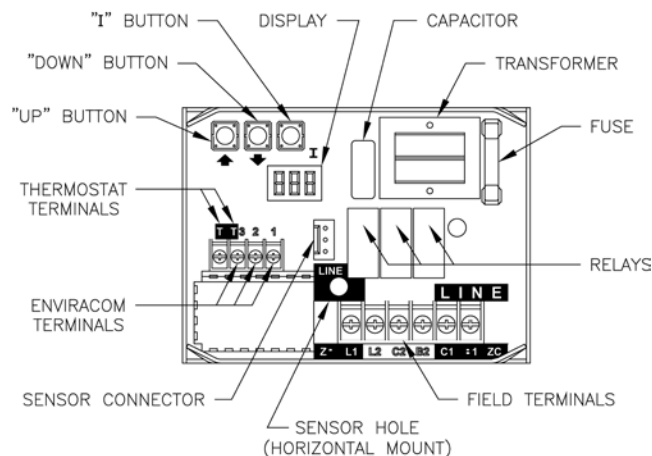

Figure 18: L7248 Circuit Board Layout - Horizontal Mount
To discourage unauthorized changing of Aquastat settings, a procedure to enter the adjustment mode is required. To enter the adjustment mode, press the **UP**, **DOWN**, and **I** buttons (see Figure 18) simultaneously for three (3) seconds. Press the ‘I’ button until the feature requiring adjustment is displayed (press the “I” button again and will display LL (Low Limit on L7224):